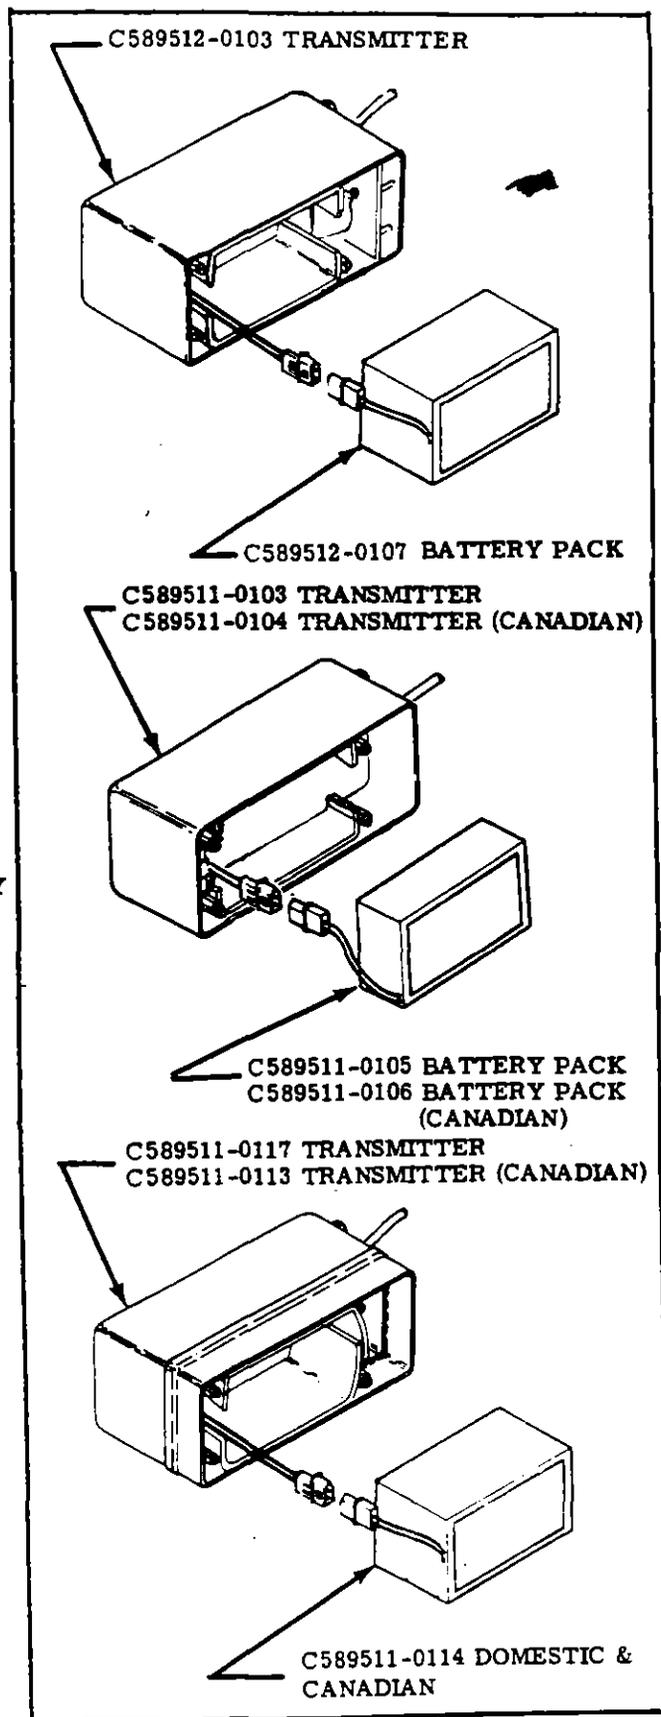

Figure 17-24. Battery Pack Installation.
17-131. REMOVAL AND INSTALLATION OF BATTERY PACK. (See figure 17-24.)
- Place new battery-pack in the transmitter with four batteries as shown in the case in figure 17-24.
- Connect the electrical connector as shown in figure 17-24.